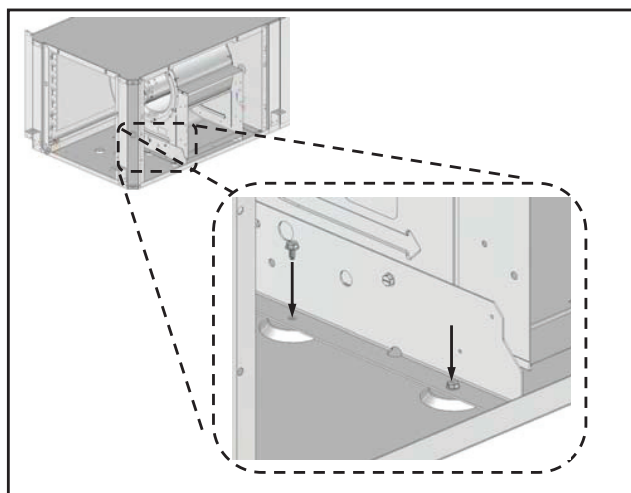

Fig. 54 - Secure Horizontal Brackets to Unit Base
14. Secure the horizontal blower brackets to the unit base using (4) screws. See Fig. 54.